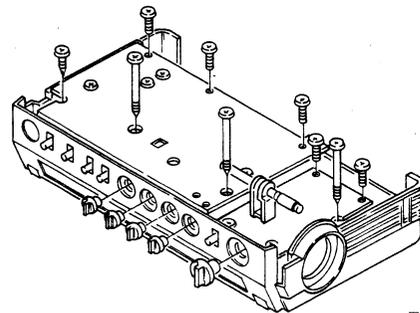

Fig. 8
1. Remove the knobs on the front panel. (Fig. 8)
3. Unscrew the nine screws securing the chassis assembly. (Fig. 8)